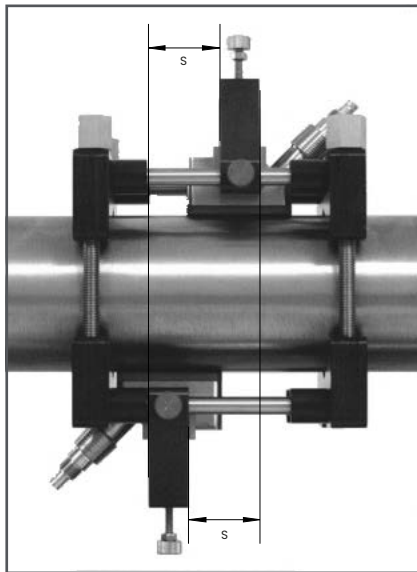

Figure 21: Top View of V4 Fixture with Both Transducers
The overall spacing between yokes should be left edge to left edge, or right edge to right edge. *Figure 21* shows typical positioning.
4. In a similar manner, install the second transducer as shown in *Figure 21*.